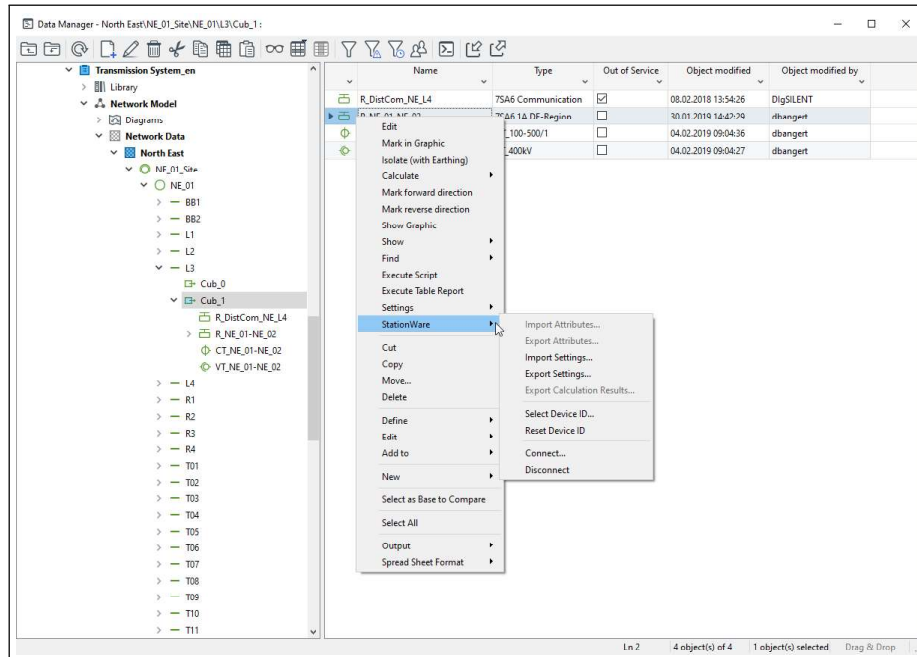

Figure 24.13.20: Device context menu
- in the Data Manager as shown in Figure 24.13.20.